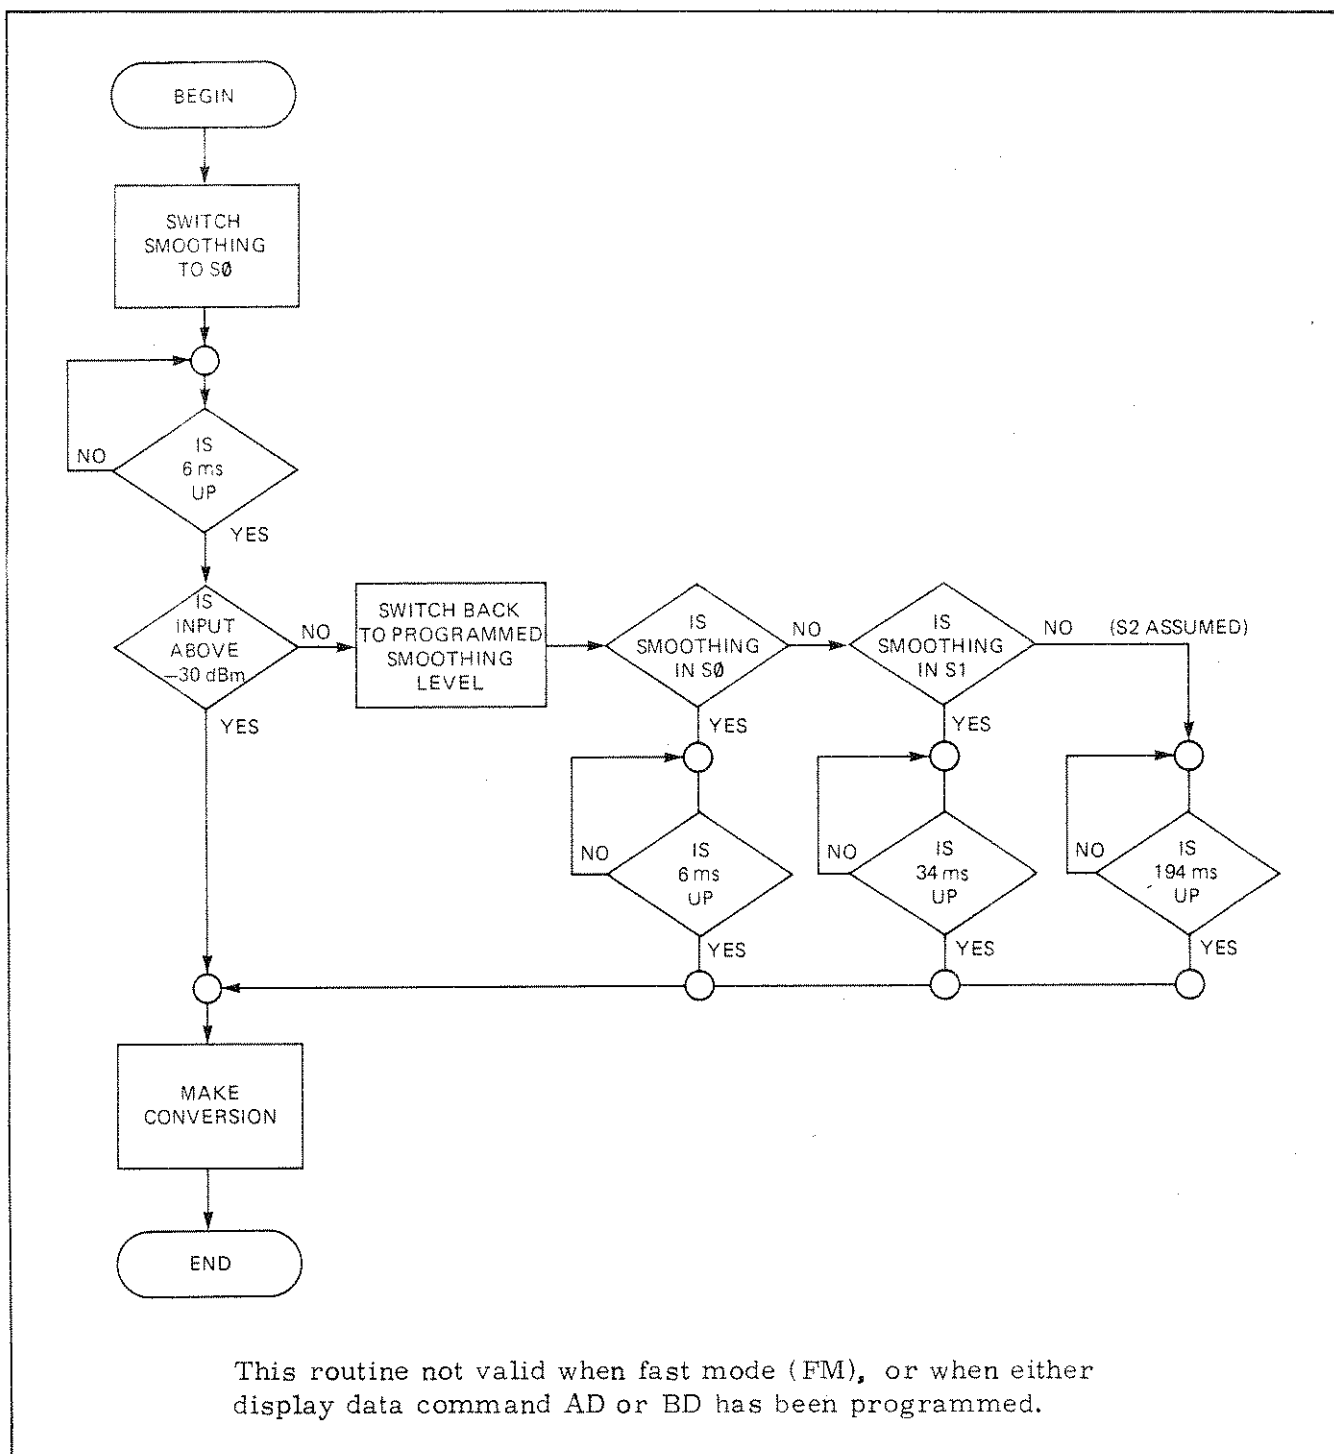
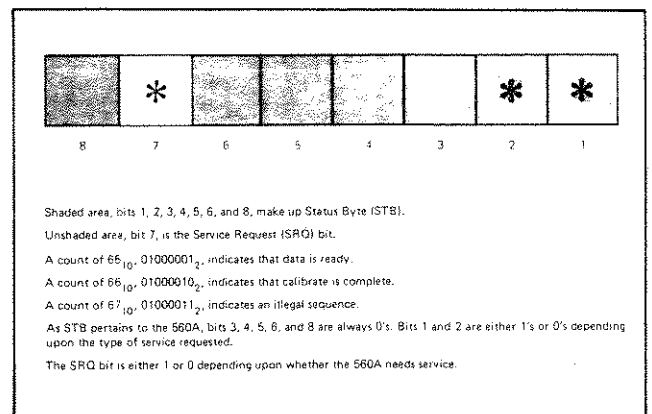

Figure 3-18. Flowchart Showing Smoothing Command Operation
Figure 3-19. Request Service Bit and Status Byte
The method of using hardware to determine which level of smoothing has been selected is represented in the flowchart in Figure 3-18. This flowcharted routine is initiated by receipt of one of the data commands (AI, BI, RI, AR,
a data command (AI, BI, RI, AR, BR, AD, or BD), the 560A initiates the flowcharted process shown in Figure 3-18. If the 560A is addressed to talk before the flowcharted process has run its course, GPIB handshake is inhibited until data conversion is complete. This is the easiest and least complex mode for which to program. Also, this is the default mode of operation. Each time power is applied, the 560A comes on line in this mode.
2. Interrupt mode command IM also uses the flowcharted process of Figure 3-18 for data conversion. However, in this mode, instead of delaying bus operation by holding up the handshake when addressed to talk, the Service Request (SRQ) control line is used. This line is set TRUE (low) to indicate an instrument needs service. When the controller senses that SRQ is TRUE, it sets ATN TRUE and sends a serial poll enable message to all instruments. When the 560A receives this message, it responds when next addressed to talk with an appropriately-coded Status Byte (STB). The status byte and request service bit are shown in Figure 3-19.